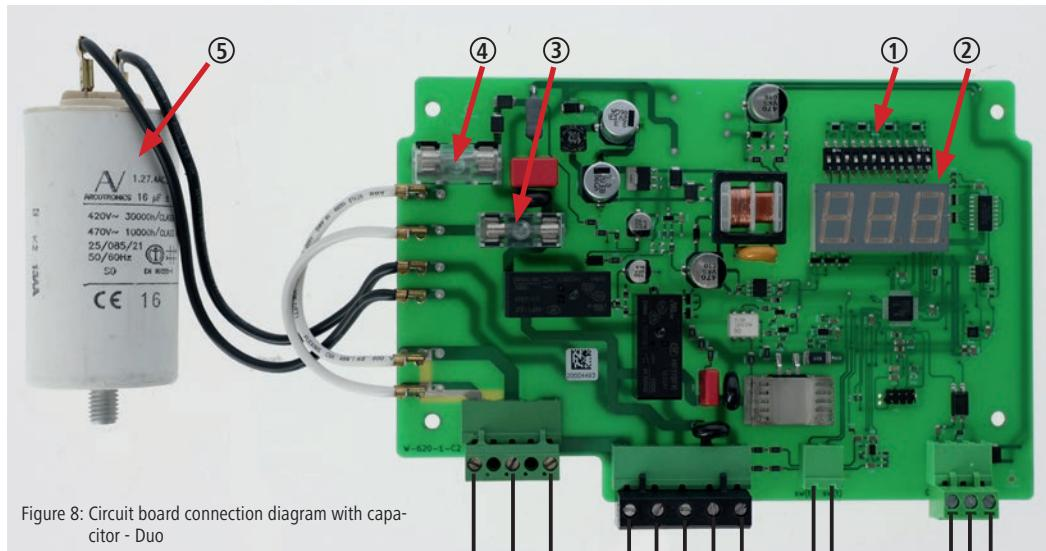

Figure 8: Circuit board connection diagram with capacitor - Duo
The cycle time is set at the factory to 60 seconds. If necessary, this can be adjusted using the dip switch element on the circuit board (Fig. 8 - item 1) to a value between 10 and 300 seconds. The cycle time may only be reset following consultation with Kerbl. The default setting and therefore the ideal setting for the Cow Cleaning Machine Duo is T3.
Fuse 6, 3 A (Fig. 8; item 3+4) on the circuit board has burned through or has come loose.	<ul style="list-style-type: none"><li>• Disconnect the control unit from the mains and secure it against being switched on again.</li><li>• Check the secure position of the fuses. Replace defective fuses. (Fig. 8 – item 3+4)</li><li>• If there is no indication on the display when restarting with replaced fuses, then the main board is defective.</li></ul>